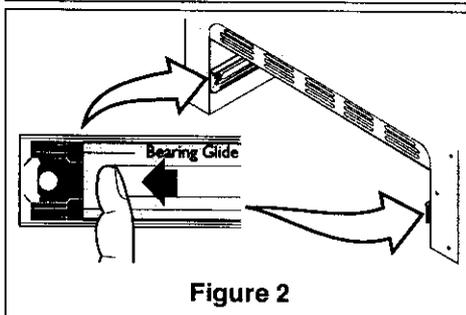

Figure 2
2. **Pull the bearing glides to the front of the chassis glide** (see figure 2).